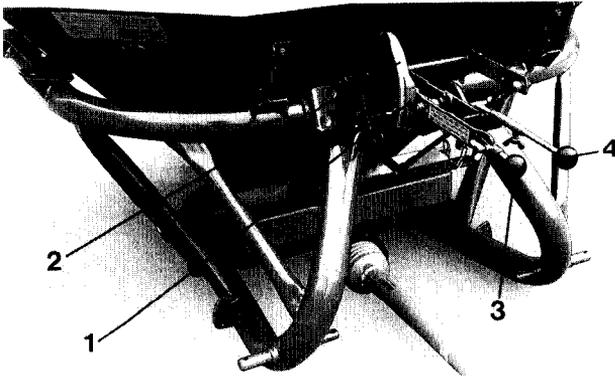
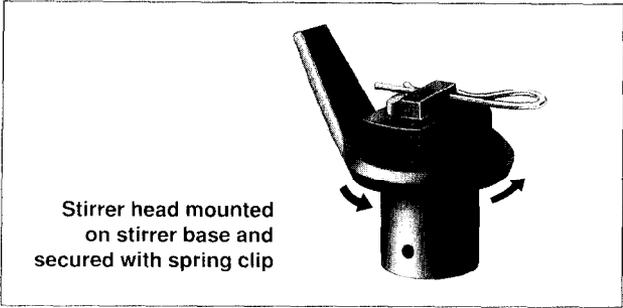
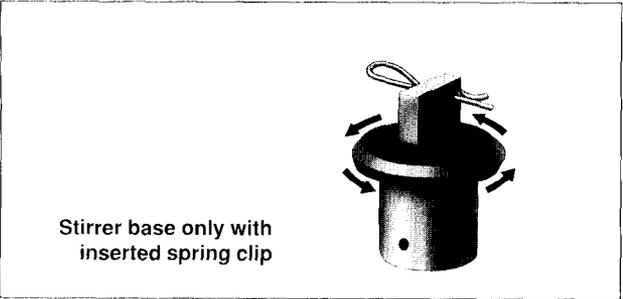
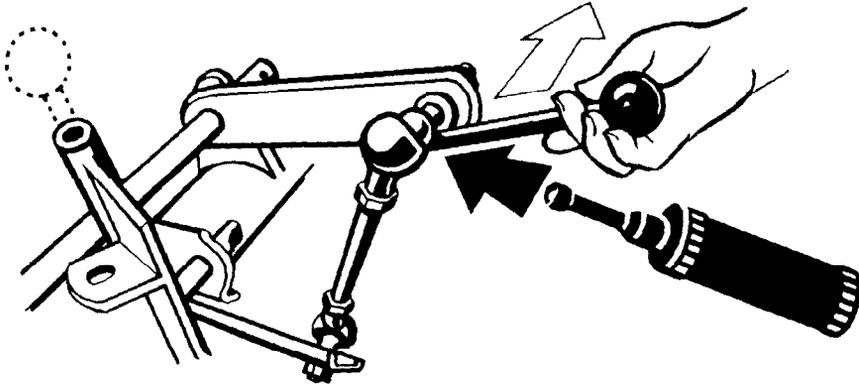

Fig. 2
Fig. 4
Fig. 5
Fig.7
When adjusting the handles take care that both extension handles (Fig. 2/3 and 2/4) lie on the stop (Fig. 2/1) of the scale (Fig. 2/2).
In the direction of forward travel, the right-hand extension handle (Fig. 2/3) should be pulled out fully, so that both extension handles (Fig. 2/3 and 2/4) can be operated independently if required. In the side of the hopper not required for spreading the stirrer head (Fig. 4) should be removed (Fig. 5) or covered with the hopper insert (optional equipment).
- 4.4 Ensure that the **4 ball joints** of the control lever (Fig. 2/3 or 2/4) are loosened from time to time, **cleaned and greased** (see Fig. 7, use extension of side lever as shown on the sticker on the machine).
These can be installed if fertilizer is powdery (i.e. slag etc.) or if ordinary fertilizer has been dampened purposely. In this case, remove the top of the stirrer heads (Figs. 5 and 6) and fit the coupling of the agitator in its place. Secure with the R-clip provided.